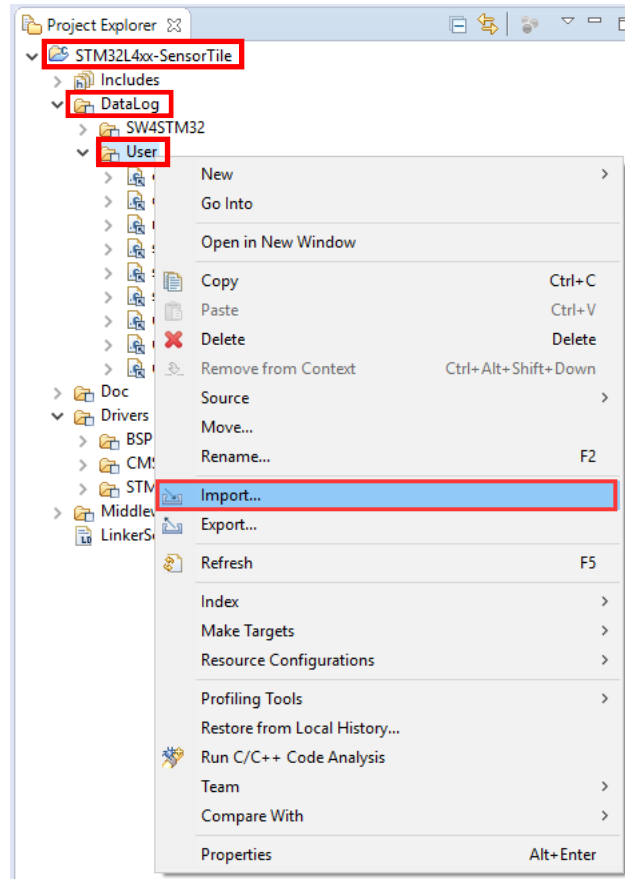

Figure 3: Importing a new source file
5. Once you successfully import the DataLog project again, select **STM32L4xx-SensorTile -> DataLog -> User** in the Project Explorer, **right-click on User**, and **select import**. Make sure that the User folder is highlighted in blue. See Figure 3.